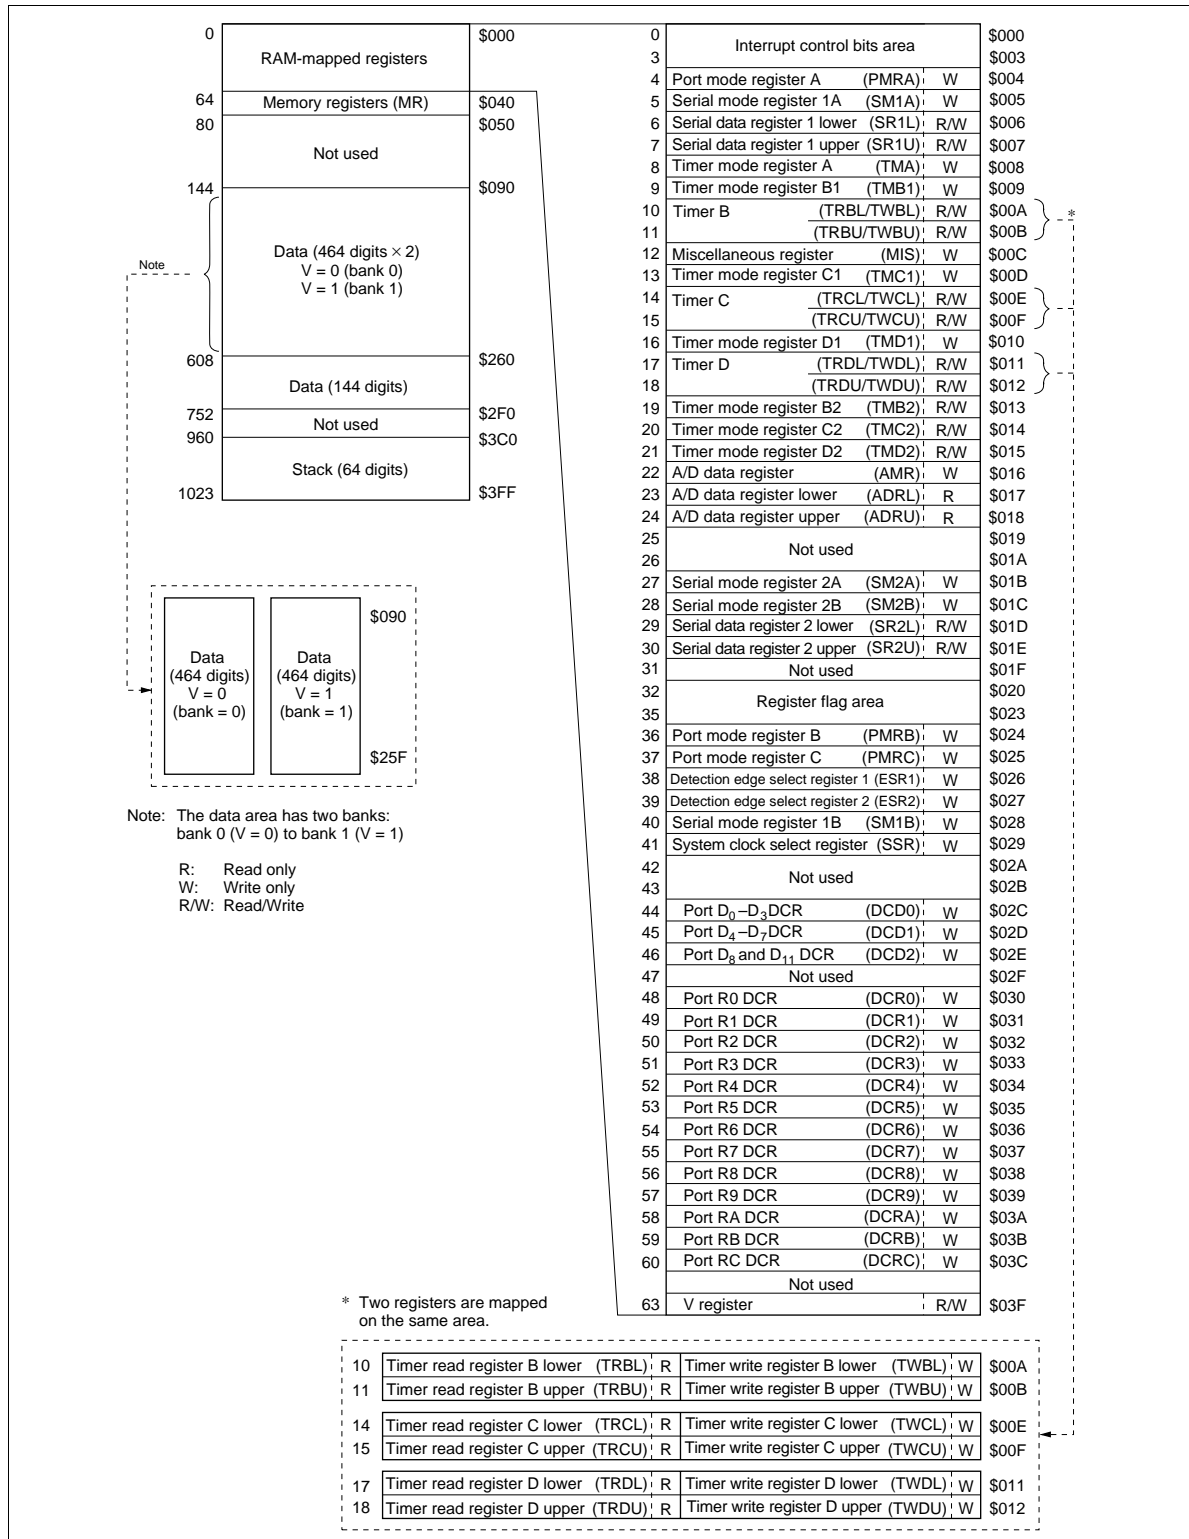

Figure 2 RAM Memory Map
The MCU contains a 1,152-digit \times 4-bit RAM area consisting of a memory register area, a data area, and a stack area. In addition, an interrupt control bits area, special register area, and register flag area are mapped onto the same RAM memory space as a RAM-mapped register area outside the above areas. The RAM memory map is shown in figure 2 and described as follows.
This area is used as mode registers and data registers for external interrupts, serial interface 1, serial interface 2, timer/counters, A/D converter, and as data control registers for I/O ports. The structure is shown in figures 2 and 5. These registers can be classified into three types: write-only (W), read-only (R), and read/write (R/W). RAM bit manipulation instructions cannot be used for these registers.